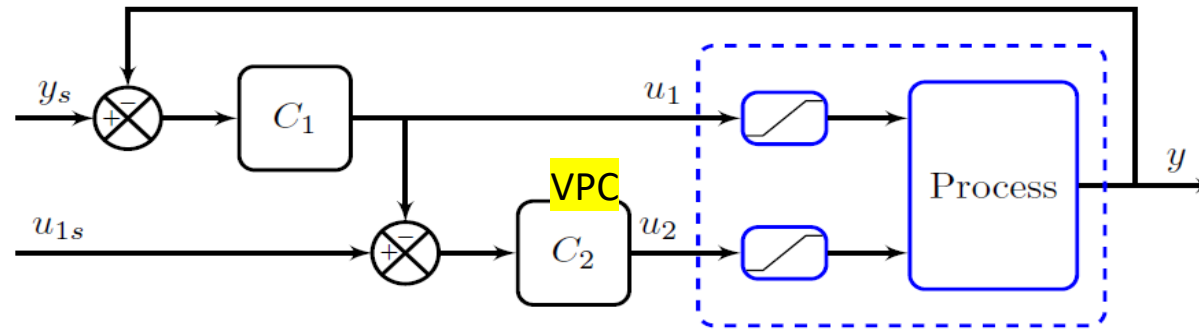

Figure 24: Valve (input) position control for MV-MV switching. A typical example is when u_2 is needed only in fairly rare cases to avoid that u_1 saturates.
E7 (Fig. 24)
The VPC schemes in Figure 12 (E3 - VPC on dynamic input) and Figure 24 (E7) seem to be the same
- In Figure 24 (E7)